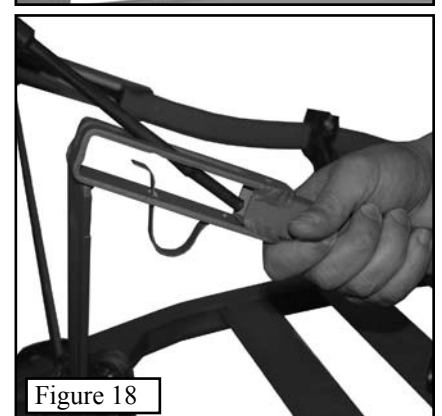

Figure 18
Step 2. Take one end of the cable around the tree and begin to slide it down into the tubing as shown in *Figure 18*. Once the cable slides easily into the tubing (it helps to bend the cable upward while pushing down on it as it is inserted), you are ready to place it in its final position.